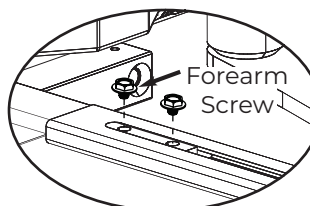

Figure 31
6. While holding arm in position, secure forearm to adjusting tube with forearm screw. (Figure 31)